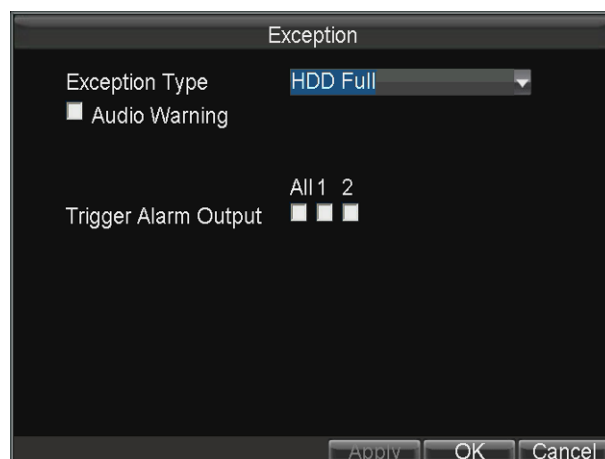

Figure 7.12 Exception Interface
1. Enter the Exception interface, as shown in Figure 7.12.